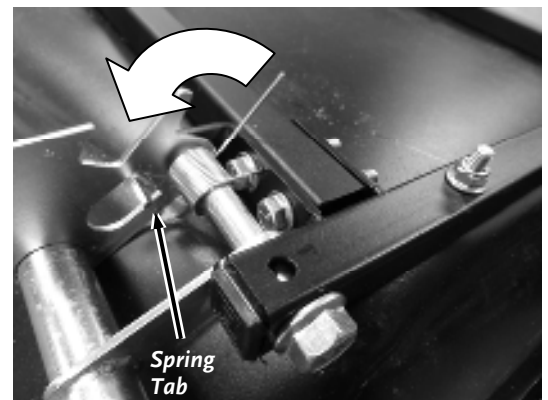

Figure 9
4. Rotate the remaining end of the Spring and secure it under the Spring Tab (Figure 9).